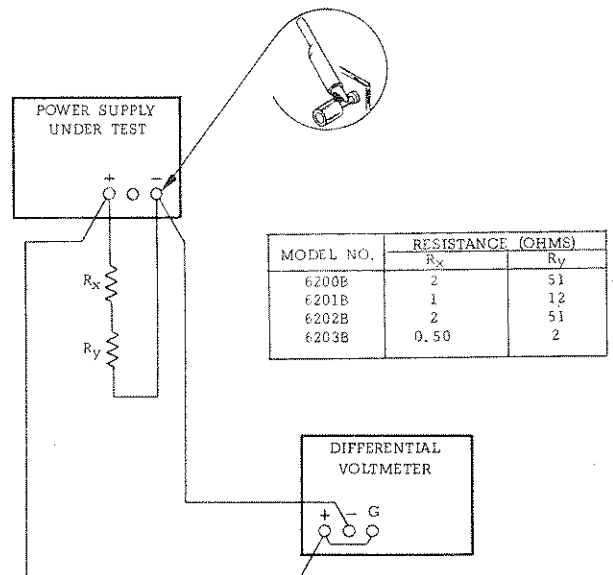

Figure 5-5. Load Regulation, Constant Voltage
a. Connect test setup as shown in Figure 5-5.
c. Connect test setup shown in Figure 5-5.
Poor load regulation (Constant Voltage)	a. Measurement technique. (Paragraph 5-16) b. Check the regulation characteristics of Zener diode VR1 as follows: (1) Connect differential voltmeter across VR1. (2) Connect appropriate load resistor (R L ), given in Figure 5-5, across (+) and (-) output terminals. (3) Perform steps b through f of Paragraph 5-16. (4) If the differential voltmeter reading varies by more than 1.8mV, replace VR1. c. Ensure that supply is not going into current limit. Check constant current input circuit.